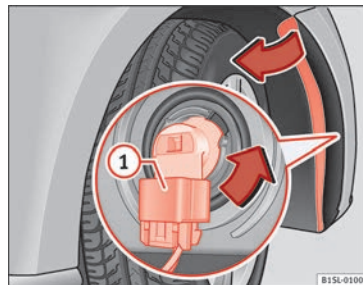

Fig. 87 Changing the bulbs in the headlights
4. Release the connector **»»»** Fig. 87 **1** and remove it.
5. Turn the bulb holder **»»»** Fig. 87 in the direction of the arrow, **in an anticlockwise direction** as far as it will go and remove it, along with the bulb, pulling backwards.